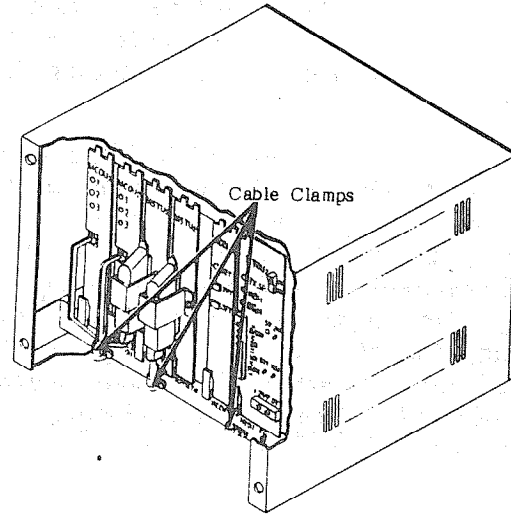

FIGURE 16
07.32 Secure the modular cords to the MKSU shelf (Figure 16) using the plastic cable clamps that are provided.